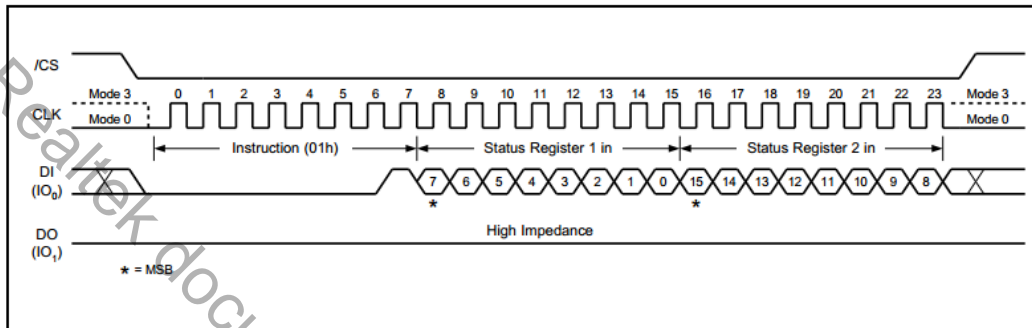
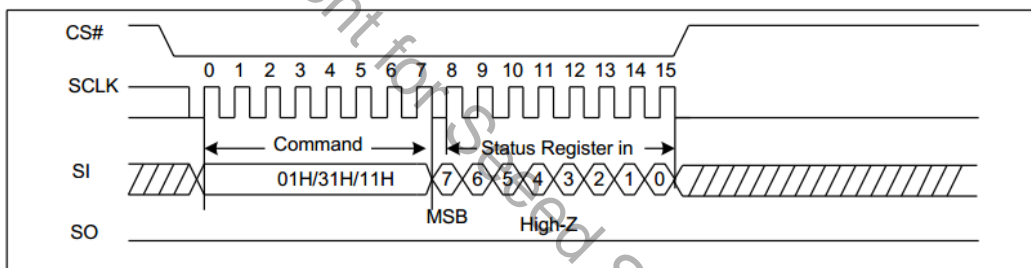

Fig 16-4 Write Status Register 1 & 2 sequence (FlashClass1, FlashClass2 when density < 2M)
Fig 16-5 Write Status Register 1/2 sequence (FlashClass2 when density > 2MB)
- For FlashClass1, the Write Status Register 2 is written together with the Write Status Register 1 using 0x01, as Fig 16-4 shows.
- For FlashClass2, when GD density is less than 2MB, the Write Status Register 2 is written together with the Write Status Register 1 using 0x01, as Fig 16-4 shows. When GD density is larger than 2MB, the Write Status Register 2 is written individually using 0x31, as Fig 16-5 shows.